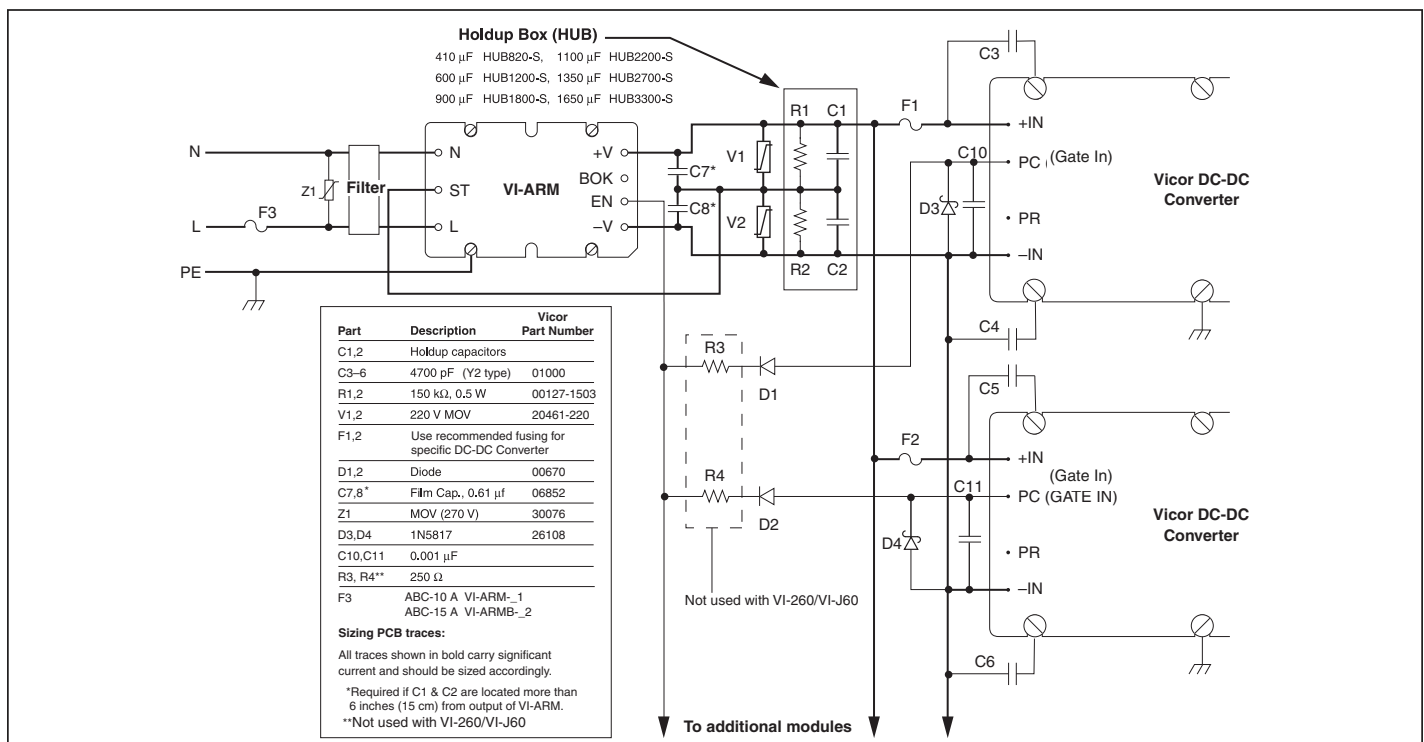

Figure 10 — Converter connections
Strap (ST) Pin. In addition to input and output power pin connections, it is necessary to connect the Strap pin to the junction of the series holdup capacitors (C1, C2, Fig. 10) for proper (autoranging) operation. Varistors across the capacitors provide input transient protection. The bleeder resistors (R1, R2, Fig. 10) discharge the holdup capacitors when power is switched off.
It should be noted that the series combination ($C1$, $C2$, Fig. 10) requires each capacitor to be twice the calculated value, but the required voltage rating is reduced to 200 V.